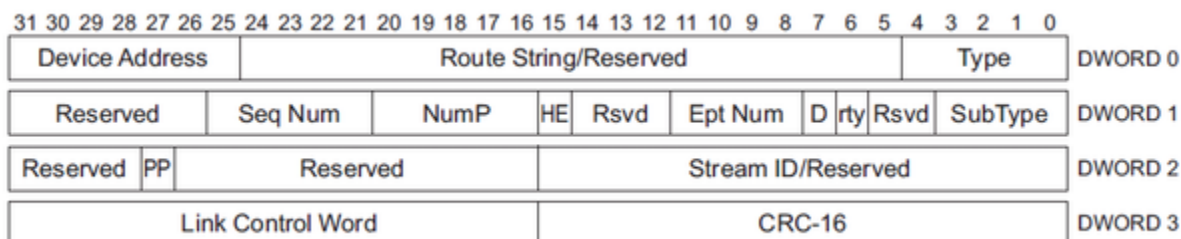

Figure 19 (above) : Transaction Packet (TP)
Transaction Packets (TP) are a type of header packet used to control the flow of data packets end-to-end between the host and device (Figure 19). Since these packets may traverse a number of links, each TP has a route string which is used by hubs to route the packet directly to the intended device.